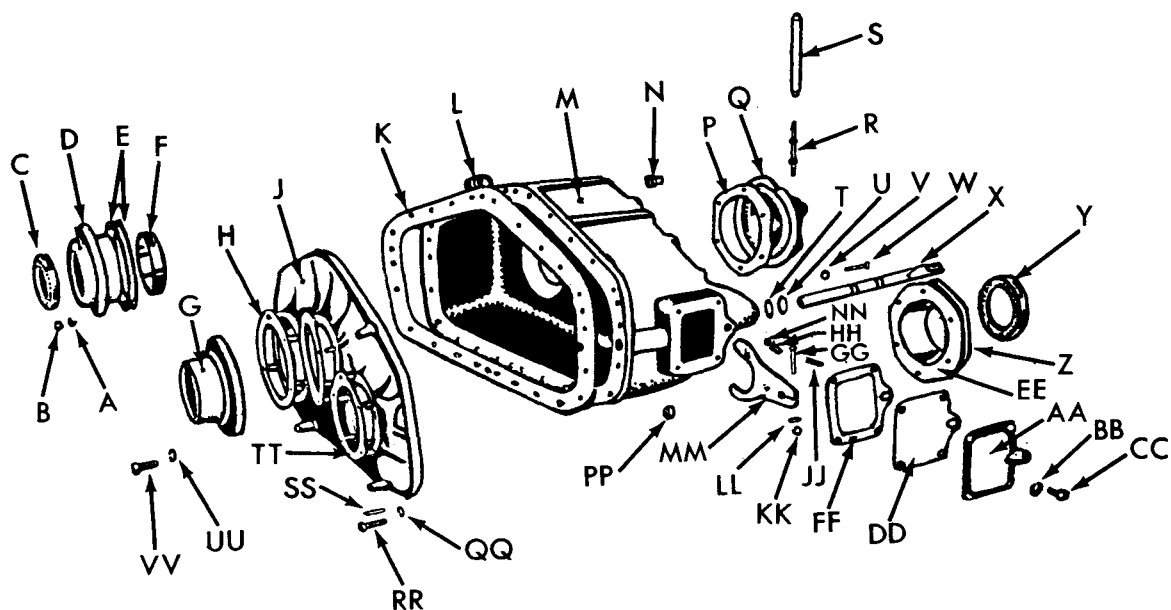

Figure 7. Transfer Case With Accessories Removed.
- (1) Remove the cap screws and lock washers that secure the shifter fork cover (AA, fig. 7) to the transfer case.
- (1) Loosen the main shaft driving clutch set screw and remove the driving clutch. Remove the main shaft oil retaining ring.
- (2) Drive the dowel pins (SS, fig. 7) from the transfer case cover (J, fig. 7).
- (3) Remove the bolts (RR, fig. 7), nuts (PP, fig. 7), and lock washers (QQ, fig. 7) that attach the transfer case cover to the transfer case. Loosen the cover with pry bars (fig. 11). Lift the cover straight up from the case so it will not bind with any internal parts. Remove the transfer case cover gasket (fig. 12).
- (1) Remove the cap screws and lock washers that secure the idler shaft front bearing cap (Q, fig. 7) to the transfer case. Remove the idler shaft front bearing cap (fig. 14).
- (2) Drive the idler shaft assembly from the front bearing bore of the transfer case.
- a. Disassembly of Transfer Case Cover (fig. 7).
- (1) Remove the cap screws (VV) and lock washers (UU) that secure the idler shaft rear bearing cap (G) to the transfer case cover (J). Remove the cap and the gasket.
- (2) Remove the nuts (B) and lock washers (A) that secure the front axle driven shaft rear bearing cage (D) to the transfer case cover. Using puller screws, remove the cage. Remove the shims (E). Tie the shims to bearing cage to facilitate adjustment when assembling.
### c. Transfer Case Cover (fig. 7).
### d. Transfer Case (fig. 7).